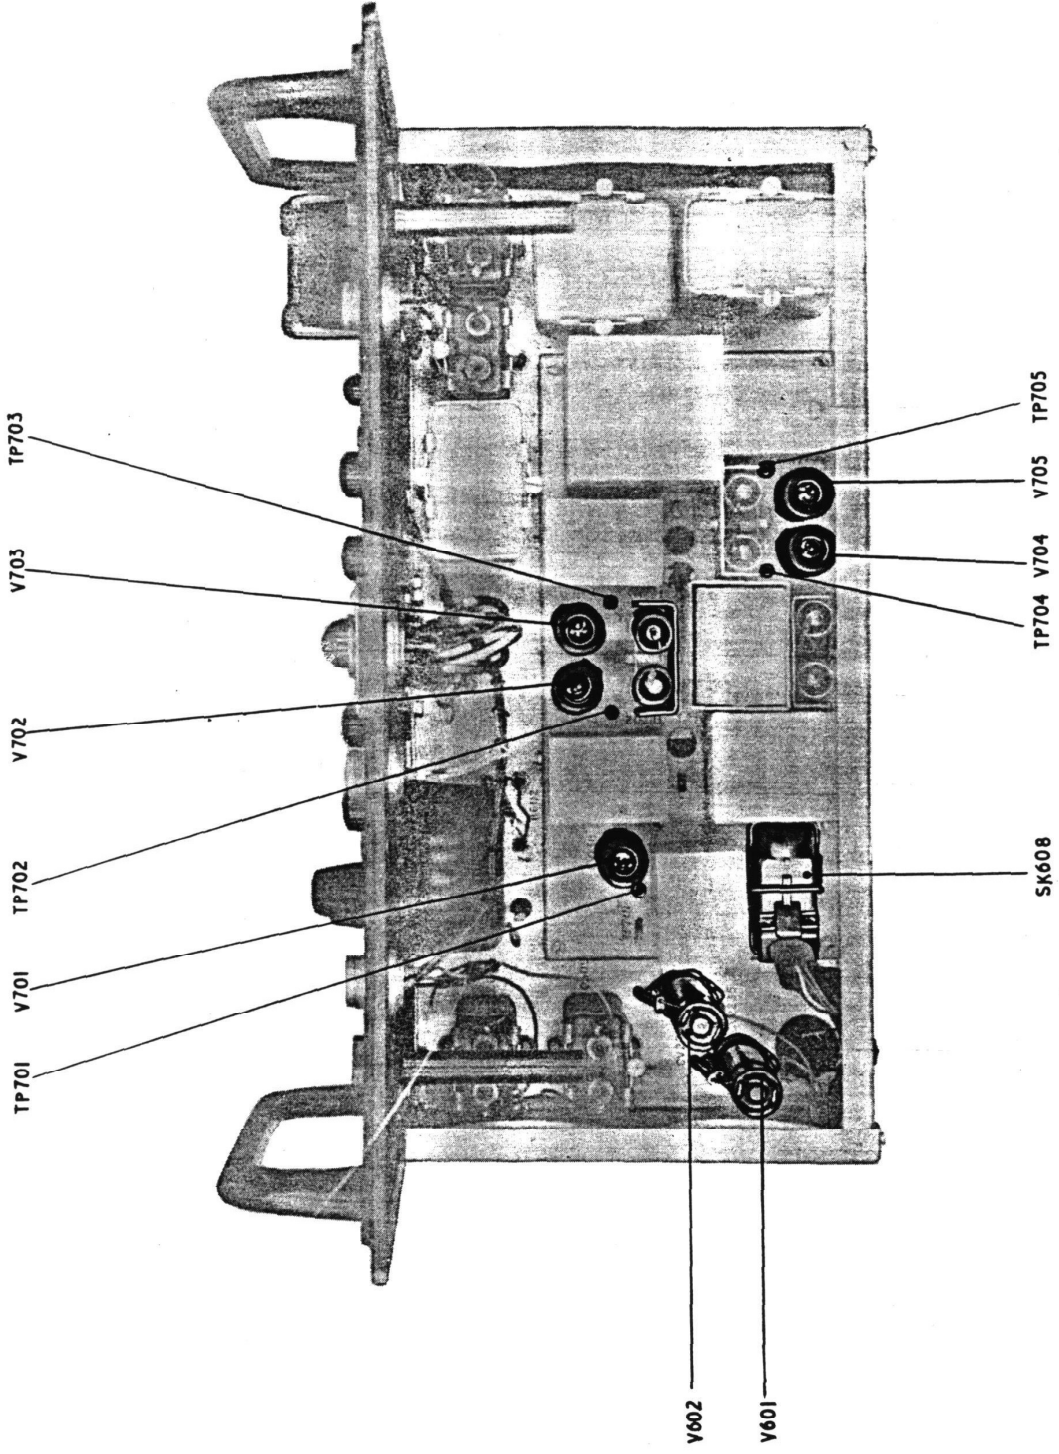

FIG. 27 ENGINEERING CHANNEL AMPLIFIER (IN SUR 23)
- (1) Before opening the Receiver SUR No. 23, ascertain that the fuses and connectors are not the cause of the trouble, and that all connectors are in place with locking rings firmly tightened by hand.
- (2) If the fault is diagnosed as definitely in the HT No. 23, switch off the mains supply and disconnect the mains and fan connectors, undo and remove the 22 nuts around the edge of the front panel, and withdraw the unit from its case.
- (3) Reconnect the mains supply and fan connectors, switch on the mains supply, and allow the units five minutes to warm up.
- (4) Referring to Fig. 27 and Table 13, check the voltages at the spigots of the socket marked TO RECEIVER.
- (5) There are only two valves in the power supply section of the SUR No. 23, the HT rectifiers V601 and V602.